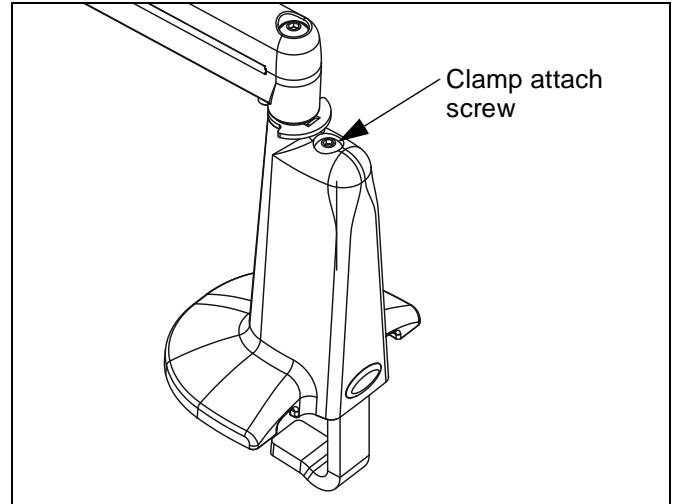

Figure 2: Remove Desk Mount
2. If previously attached, loosen clamp attach screw (See Figure 2). Remove desk mount from desk.